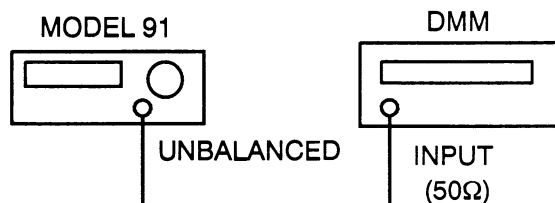

Figure 3-2. Amplitude Accuracy Setup
2. Connect the Model 91 and test equipment as shown in figure 3-2. Remember to terminate the Unbalanced Output into 50Ω.